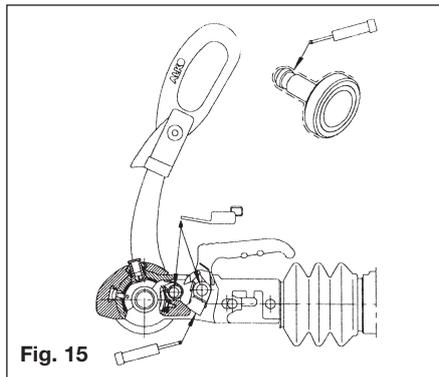

Fig. 15
4. If the arrow on the arm (Fig 8/Item 4) is before or on the marked area (Fig 15/Item 2) the friction pads are still as new (See A).
- b. Areas may only be covered with a thin film of grease (Fig 15)